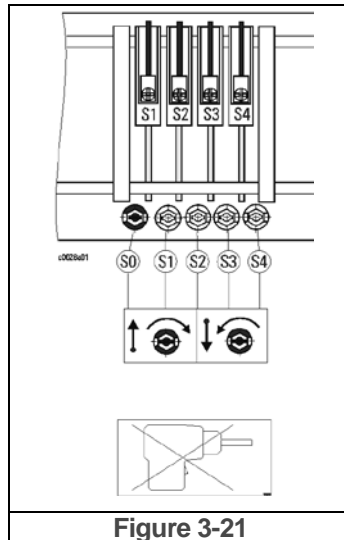

Figure 3-21
3.8.7 Setting hoist limit switch (Figure 3-17, Figure 3-18, Figure 3-19, Figure 3-20, and Figure 3-21).
- 3) The limit switch can be adjusted at the setscrews (S1), (S2), (S3), and (S4) see **Figure 3-21**.
- All the cam discs can be moved together with the aid of the black setscrew (SO), Figure 3-21. The settings of the individual contacts relative to one another remain unchanged. The gear ratio inside the limit switch is very high and in some instances it might require many revolutions of the set screws to adjust the proper position.